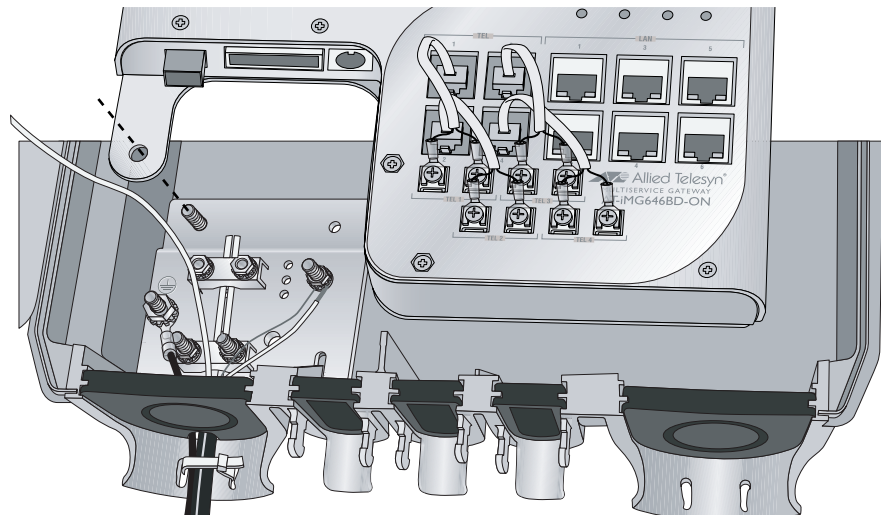

Figure 31. Positioning the Gateway on the Mounting Post
4. Place the gateway into the enclosure with the mounting post through the hole in the metal tab on the gateway, as shown in Figure 31.